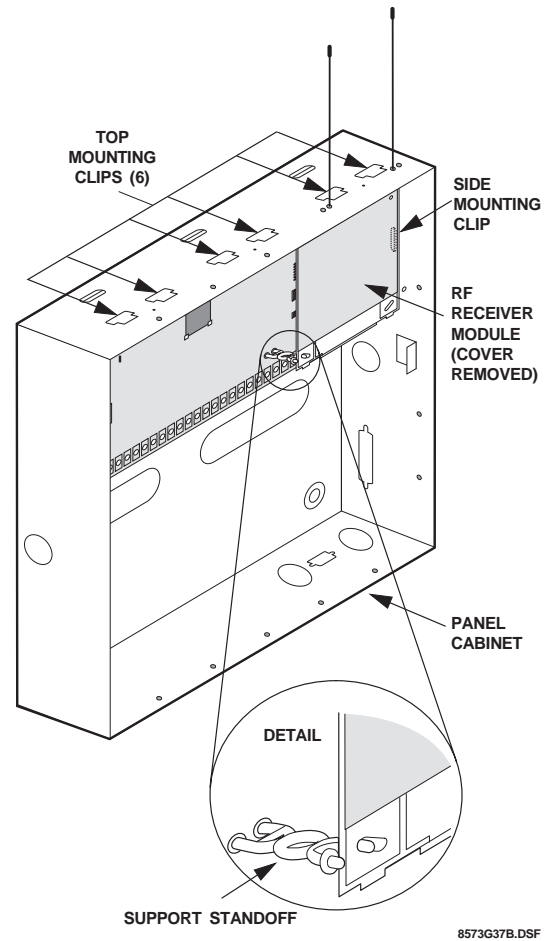

Figure 24. Mounting SuperBus 2000 Modules Inside the Cabinet (RF Receiver Shown)
- ❑ One SuperBus 2000 RF Receiver can be installed inside the cabinet, but it must be mounted on the right-hand side to accommodate the antennas (see Figure 24). Additional
1. Mount the receiver inside the cabinet enclosure as shown in Figure 24.